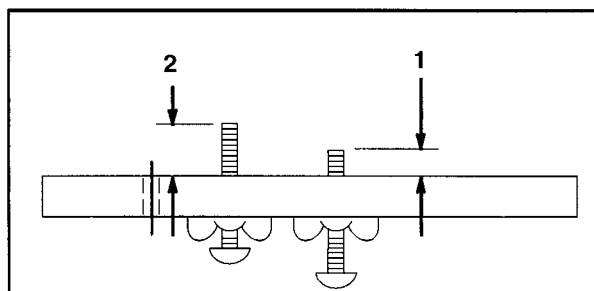

Figure 19
6. Using a vernier caliper, measure the height of the first and second screw. This measurement is from the bar face to the end of the screw (Fig. 19).